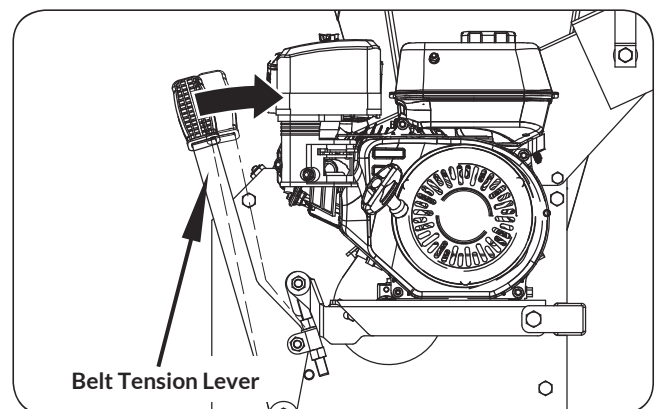

Figure 21
2. Pull up on the belt tension lever to tighten the belts. (See **Figure 21**)